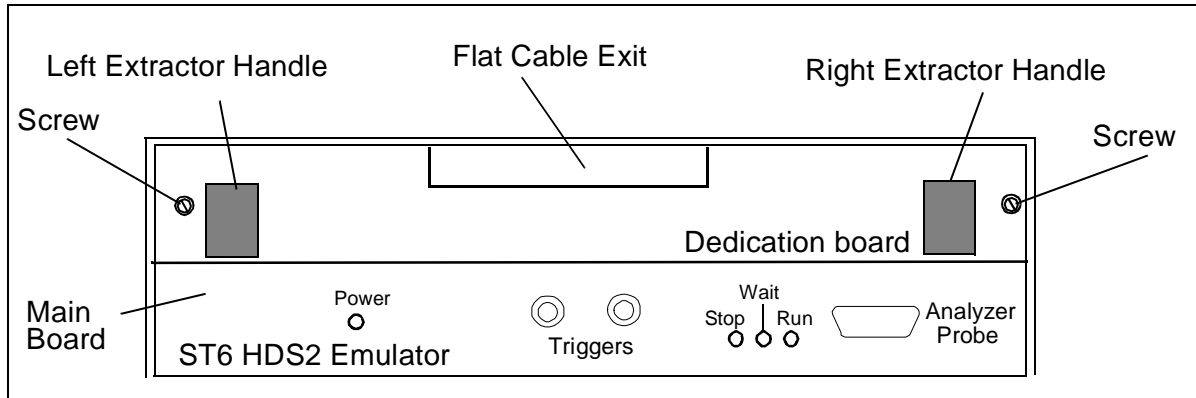

Figure 4: ST62GP-EMU2 Front Panel
- a Completely loosen the two screws on the front panel of the dedication board (see *Figure 4*).
- 6 The power LED on the front panel should light up (see *Figure 4*). If not, refer to *Troubleshooting* on page 47, otherwise proceed to the next step.